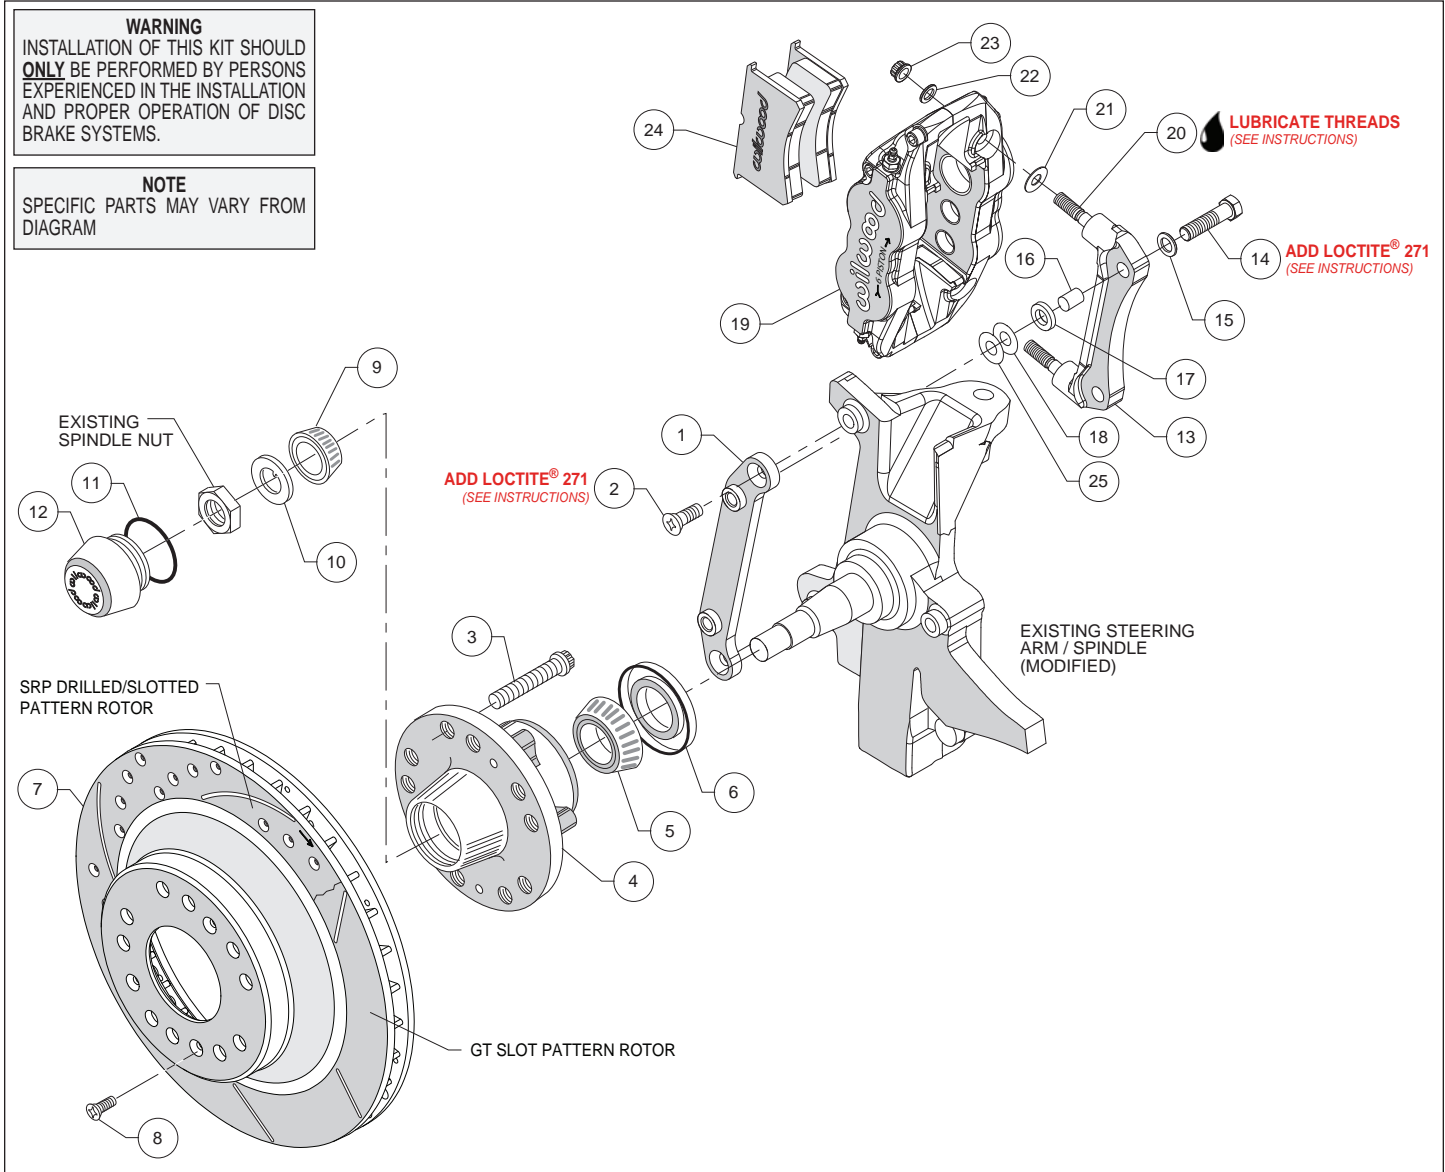
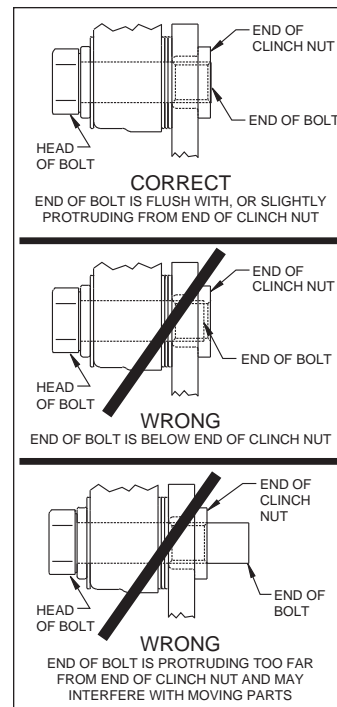

Figure 2. Typical Installation Configuration
Figure 4. Clinch Nut Engagement Diagram
**Assembly Instructions** (numbers in parenthesis refer to the parts list, and Figure 2): **CAUTION:** All mounting bolts must fully engage clinch nuts. Be sure to check that all bolts are either flush or protruding through flanged side of clinch nut after shimming, Figure 4.
- Orient the flat mounting bracket (1) as shown in Figure 2 and install using bolts (2). **NOTE:** Be sure the heads of the flat caliper bracket (1) insert nuts are facing outward toward the wheel. Temporarily tighten the mounting bolts. **NOTE:** The bracket must fit squarely against the mount bosses on the upright. Inspect for interference from casting irregularities, machining ridges, burrs, etc. After the bracket fitment has been checked, remove the bracket mounting bolts one at a time and apply red *Loctite*® 271 to the threads. Torque bolts to 40 ft-lb.
- The caliper radial mount bracket (13) should initially be installed with clean, dry threads on the mounting bolts. Place sleeve (16) into the holes on the bracket. Orient the bracket as shown in Figure 2, and install using bolts (14), and washers (15). Position spacer (17), and shim washers (18 and 25) between the two brackets. Initially place one .030" thick shim and one .016" thick shim on each bolt between the two brackets, Figure 2. Temporarily tighten the mounting bolts. Later, after the caliper alignment has been checked, the mount bolts will be secured using red *Loctite*® 271.
- Install wheel studs (3) into the hub (4), Photo 1. Torque to 77 ft-lb. **NOTE:** *There are two five lug patterns in the hub (5 x 4.50 and 5 x 4.75).* Ensure the correct hub stud pattern is being used to fit the wheel application.
- Pack the large inner bearing cone (5) with high temperature disc brake bearing grease (available from your local auto parts store) and install into the backside of the hub (4), Photo 2.
- Install the grease seal (6) by pressing into the backside of the hub (4), flush with the end of the hub, Photo 2.
- Pack the small outer bearing cone (9) with high temperature disc brake bearing grease and install into hub (4). Slide the hub assembly onto the spindle. Secure using spindle washer (10) and OEM spindle nut, Photo 3. Adjust bearings per OEM specifications. Install saved OEM nut lock (if any) and a new cotter pin (not included).
- Screw dust cap (12) into hub (4), Photo 4. Friction created by the o-ring (11) on the dust cap keeps it from unscrewing. **NOTE:** *The O.D. of the existing OEM spindle washer may be larger than the I.D. of the dust cap not allowing it to seat against the hub face. Therefore, use the spindle washer (10) supplied with the kit instead of the OEM washer.*
- Slide the hat/rotor (7) onto the hub (4) taking care to align the small countersunk holes in the hat with the small threaded holes in the hub. **NOTE:** *The hat must fit flush against the hub face or excessive rotor run out may result.* Install three flat head screws (8) through the small holes in the hat (7), Photo 4, and torque to 85 in-lb.
- **NOTE:** *This kit contains distinct right and left hand calipers that must be mounted in a specific direction, as described below.* Lubricate the caliper mounting studs (20) with lightweight oil. Initially place one .035" thick shim (21) on each stud between the caliper and the bracket, as shown in Figure 2 and Photo 5. Mount the caliper (19) onto the bracket (13) using lock nuts (23) and washers (22), Figure 2. Ensure that the caliper is mounted so the largest pistons are at the rotor exit end of the caliper, in relation to the direction of rotor rotation. Temporarily tighten the lock nuts and view the rotor through the top opening of the caliper. The rotor should be centered in the caliper, Photo 6. If not, adjust by adding or subtracting shims (18 and/or 25) between the two brackets. Always use the same amount of shims on each of the two mounting bolts. Once the caliper alignment is correct, remove the bracket mounting bolts one at a time, apply red *Loctite*® 271 to the threads, and torque to 60 ft-lb.
- Remove the caliper center bridge pad retainer bolt, nut, and tube from the caliper. Insert the brake pads (24) into the caliper, with the friction material facing the rotor, as shown in Photo 7. Check that the top of the brake pad is flush with the outside diameter of the rotor, Photo 8. If not, adjust by adding or subtracting shims (21) between the caliper and the bracket. After the caliper pad height is set, torque the caliper lock nuts (23) to 30 ft-lb. Secure the brake pads in place with the center bridge pad retainer tube, bolt, and locknut. The locknut should be snug without play in the bolt or tube. Be cautious not to over tighten.